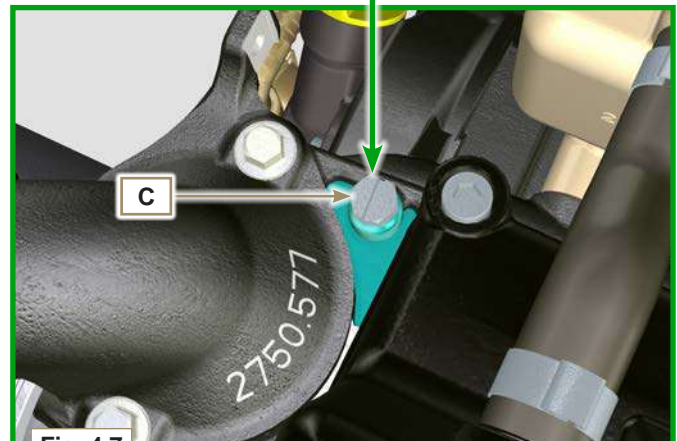

Fig. 4.7
- 2 - Loosen the screw **C** release any air and tighten the screw **C** (Tightening torque of **8 Nm** - Fig. 4.7).
**NOTE:** The **MAX** filling level for exhaust manifold **B** is in correspondence of capscrew **C**, complete the coolant refilling procedure as soon as the coolant starts leaking out of capscrew **C** (Fig. 4.7).